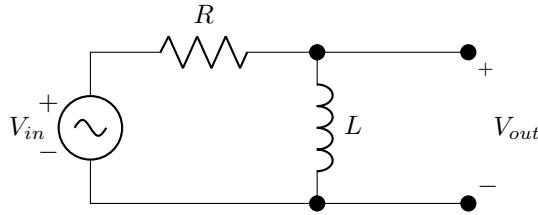

Figure 6.1: Lab # 6 High Pass Filter
- A. For the circuit in Figure 6.1, derive the complex valued transfer function, V_{out}/V_{in} , in terms of R, L, and the angular frequency ω .